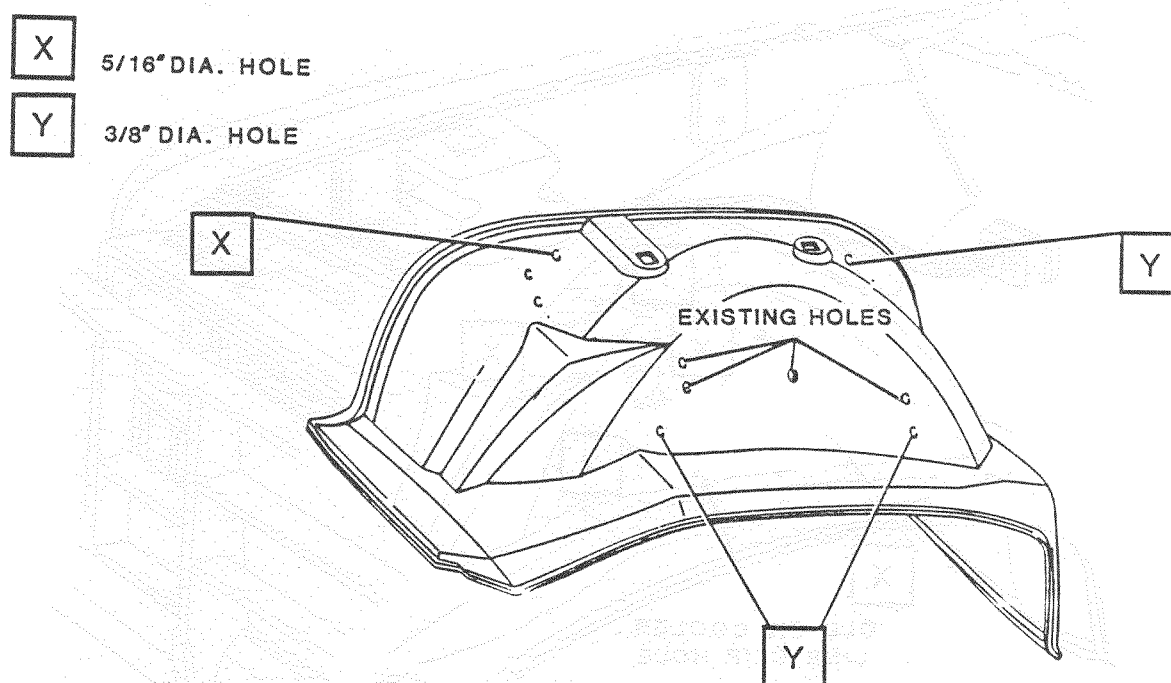

Figure 7.
64. Locate and drill  $5/16$  inch holes X, and  $3/8$  inch holes Y, in right fender skirt in prepunched depressions (Figure 7.).